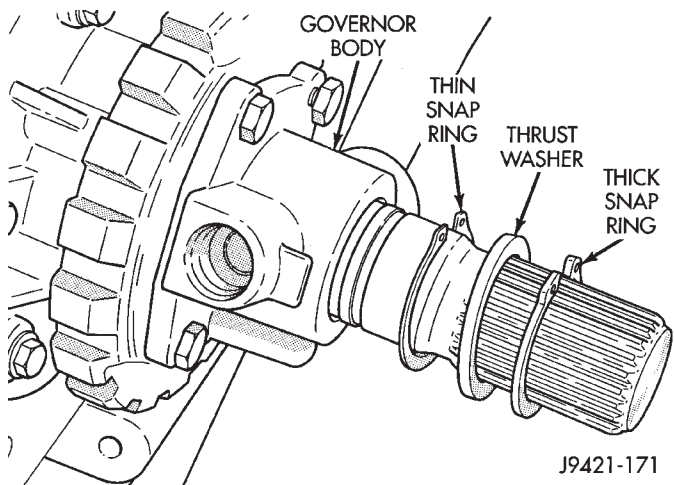

Fig. 19 Governor Body/Park Gear Attachment
(28) Remove E-clip from one end of governor valve shaft and remove valve and shaft from governor body (Fig. 19). Reinstall E-clip on shaft to avoid losing it.
(29) Remove thick snap, thrust washer and thin snap ring that retain governor body and park gear on shaft (Fig. 19).
(30) Loosen bolts attaching governor body to park gear.